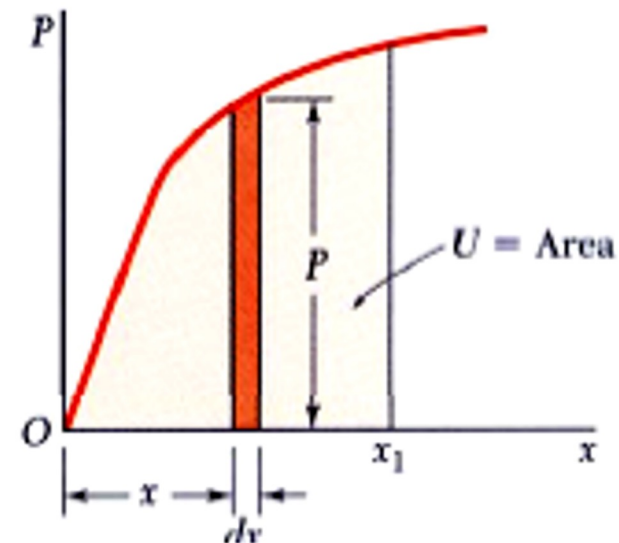

Figure 2
- The expression obtained is equal to the element of area of width $d\mathbf{x}$ located under the load-deformation diagram (Figure.2). The total work U done by the load as the rod undergoes a deformation $\mathbf{x}_1$ is thus